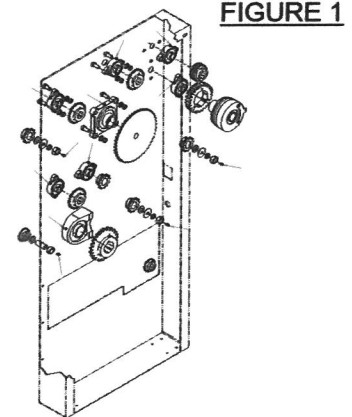

FIGURE 1
LOCATE THE LEFT SIDE OF THE MACHINE (FIGURE 1). THIS SIDE WILL HAVE THE SINGLE DRIVE CHAIN. YOU WILL NOTICE THE SEVEN (7) BEARING FLANGES, SIX (6) TWO (2) HOLE FLANGES AND ONE (1) FOUR (4) HOLE FLANGE. WITH A GREASE GUN, APPLY A SMALL AMOUNT OF GREASE TO THE FITTINGS. YOU WILL ALSO NOTICE A GREASE FITTING COMING OFF (PART NO. K104LSIA) NEAR THE MIDDLE OF THIS PANEL. THIS MAKES A TOTAL OF EIGHT (8) GREASE FITTINGS FOR THE LEFT SIDE.